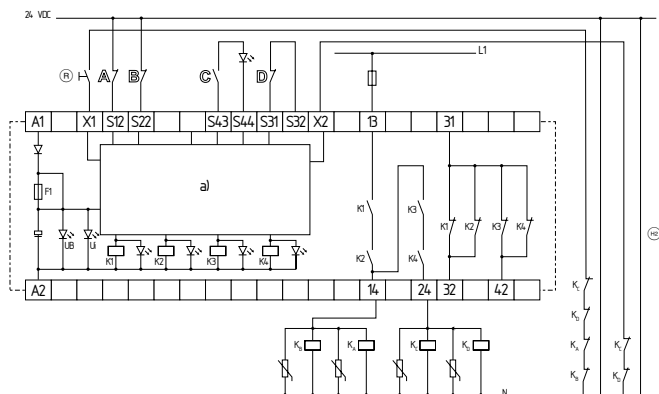

Fig. 3: SRB 202CA, 202CA/T, SRB 202CA/Q, SRB 202CA/QT
Dual-channel control, shown for an emergency stop circuit; with two contacts A and B and a guard door monitor with two contacts C and D, where at least one is a positive break contact; with external reset button (R) (related on the switch-off level 1) (see Fig. 3)